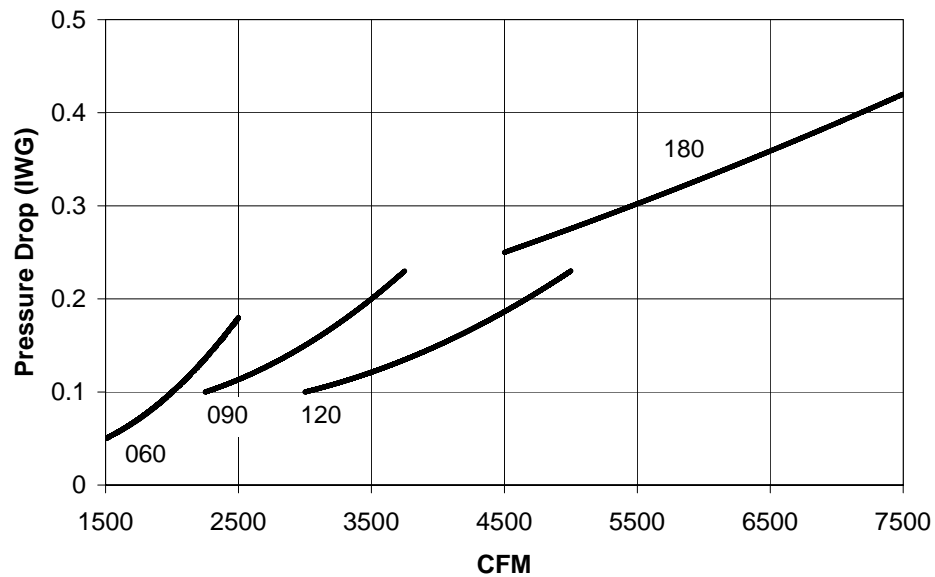

FIGURE 14 - PRESSURE DROP ACROSS A DRY EVAPORATOR COIL VS. SUPPLY AIR CFM
- Knowing the pressure drop across a dry coil, the actual CFM through the unit can be determined from the curve in Figure 14.